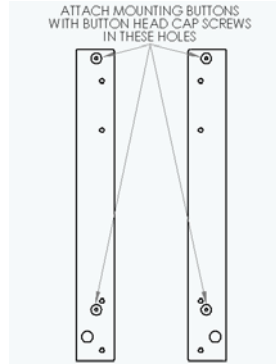

Figure 2
1. Using a 10-24 button head cap screw inserted from back side of bracket, secure mounting button, with chamfered hole of mounting button (larger surface) facing bracket, to bracket (four places) (See Figures 2 & 3).